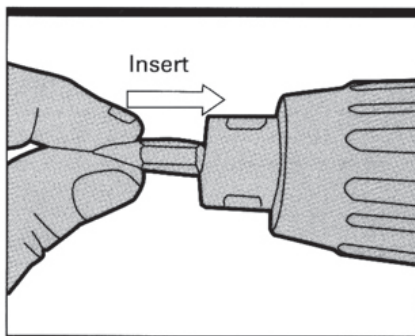

Fig 2
1. Inserting a bit into bit holder (see fig2)